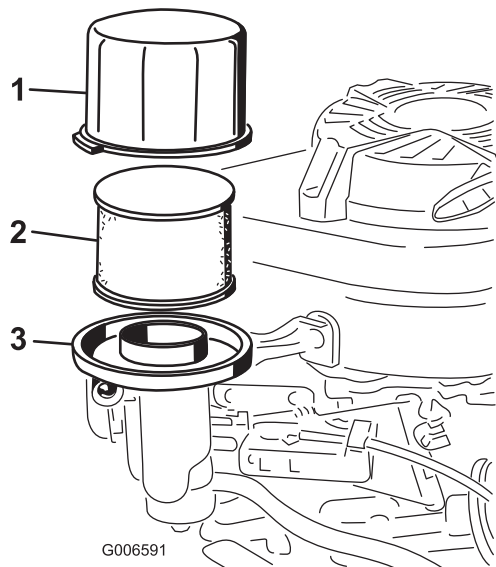

Figure 28
3. Remove the cover and clean it thoroughly (Figure 28).
4. Remove the foam pre-filter and paper filter (Figure 28).
5. Remove the foam pre-filter from the paper filter (Figure 28), and replace the paper filter if it is excessively dirty.
6. Tip the machine, with the air filter up, to drain the oil into the drain pan (Figure 28).